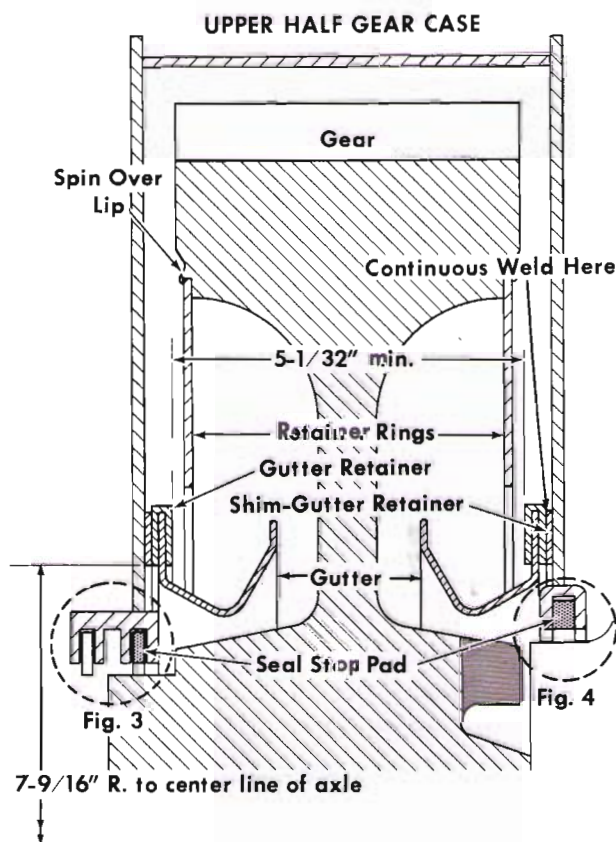

Fig. 2 - Upper Half Gear Case
3. Locate one .060" shim, 8315259 over the gear hub side, Fig. 2. Place gutter retainer 8301380 on top of the shim so the I.D. of the gutter retainer is flush with the I.D. of the shim. Check to see that the gutter retainer and shim are equally spaced radially from I.D. of the felt seal retainer, or 7-9/16" from center line of axle. Use "C" clamps to pull the retainer and shim down tight against the gear case side plate for welding.
8. Repeat steps 1 through 7 for application of gutter retainer over the wheel hub side. Refer to Fig. 2.
9. The distance between the two gutter retainers should be 5-1/32" for sufficient gear clearance and to insure proper assembly. Refer to Fig. 2. If the dimension is less than 5-1/32", the gear case will have to be spread apart with jacks. Do not over spread the upper half as the lower case will not fit and the gutter retainers may bow, causing the gutters to bind.
14. Position the seal stop pads 8250403 and 8250229 in the axle bore seal retainers as shown in Figs. 2, 3, and 4. Weld and grind flush with retainer. Do not recess the pads below the parting line, or the metal back felt seal will protrude on the opposite end. Note that on the motor side, only the inboard retainer receives a stop pad.